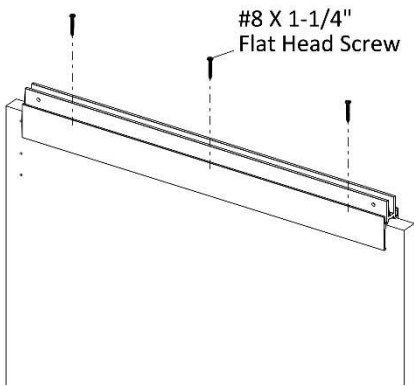

Figure 2
3. Securely fasten base extrusion with #8 X 1-1/4" Flat Head Screws, (Figure 2)